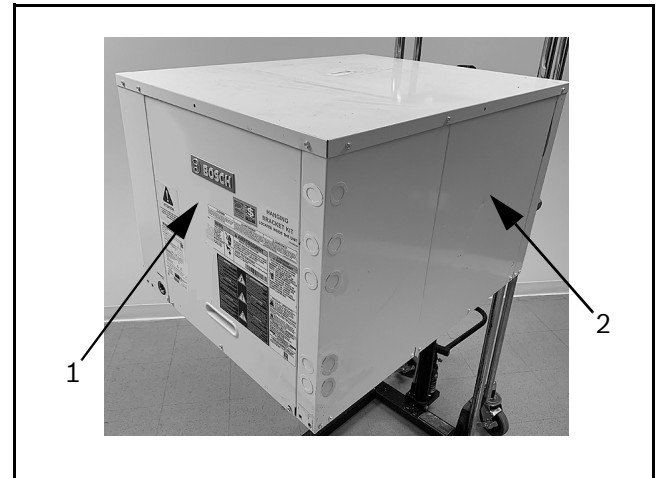

Fig. 2 Access Panels
3. Locate the access panels (See Fig. 2), the electrical access panel (front, pos.1) and the blower section (side, pos.2).